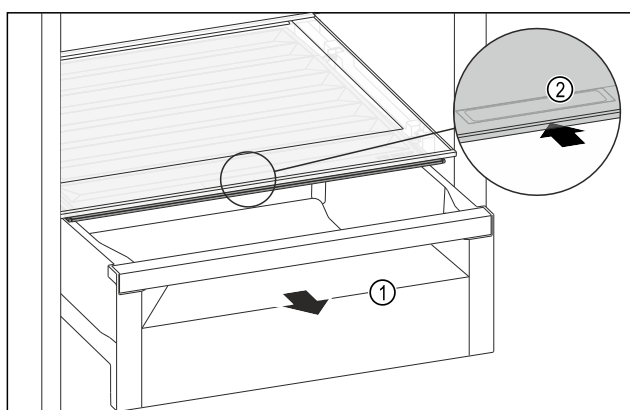

Fig. 204
- Pull out the drawer Fig. 204 (1).
- Grip the handle recess Fig. 204 (2) on the lid while pulling the lid backward at the same time.